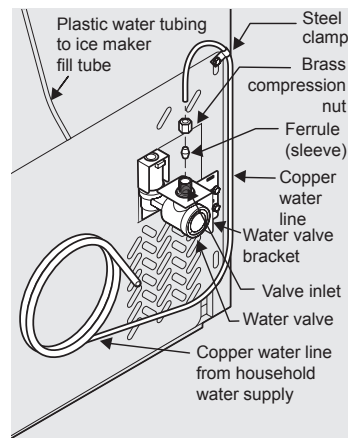

Figure 28
4. **If you use copper tubing** - Slide brass compression nut, then ferrule (sleeve) onto water supply line. Push water supply line into water valve inlet as far as it will go (¼ inch / 6.4 mm). Slide ferrule (sleeve) into valve inlet and finger tighten compression nut onto valve. Tighten another half turn with a wrench; DO NOT over tighten. See Figure 28.